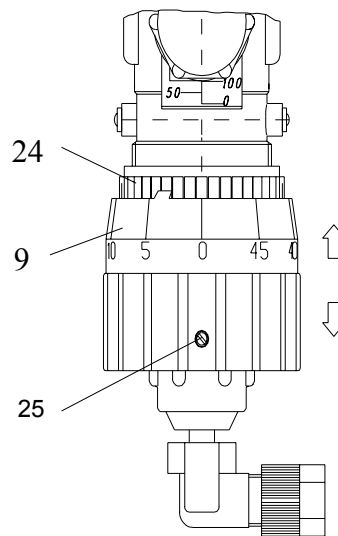

Figure 4.3 - Mechanical Stroke Adjustment Calibration
- b. Turn the stroke adjustment knob (9) counter-clockwise until there is no liquid flow in the metering line. Refer to Figure 4.3.
- c. Loosen headless screw (25, two locations) and pull out the stroke adjustment knob (9).
- d. Re-attach with the “0” line in the knob in line with the “0” scale of the barrel (24).
- f. Tighten the two headless screws (25).